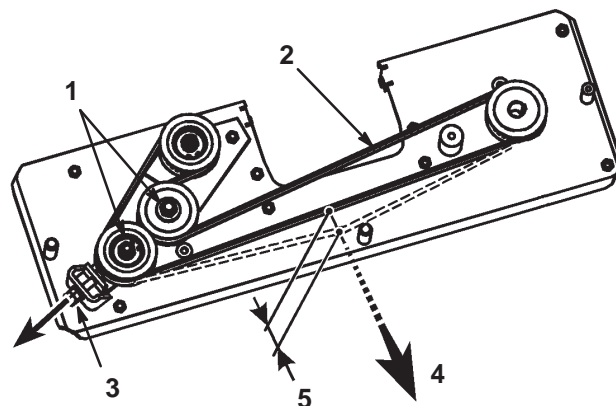

Figure 40
4. Loosen the 2 hex nuts on the idler pulley (Fig. 40).
5. Adjust the M10 nut until the belt flexes 5 mm with 30 N of force (Fig. 40).